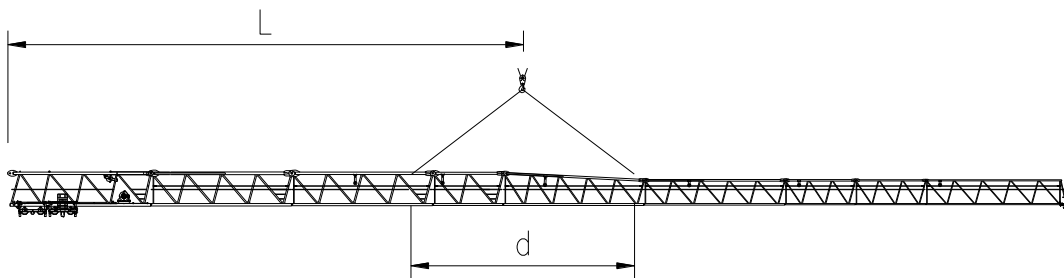

Fig. 4-41 Reference center of gravity of jib
- 2) According to the center of gravity of the jib assembly of each jib length to hang the rope, as shown in Fig. 4-41 and Table 4-30. Try to test the hoist point whether balanced, otherwise the position of the hanging rope can be moved appropriately. The distance between the two hoist points is $8\text{m} \leq d \leq 20\text{m}$.